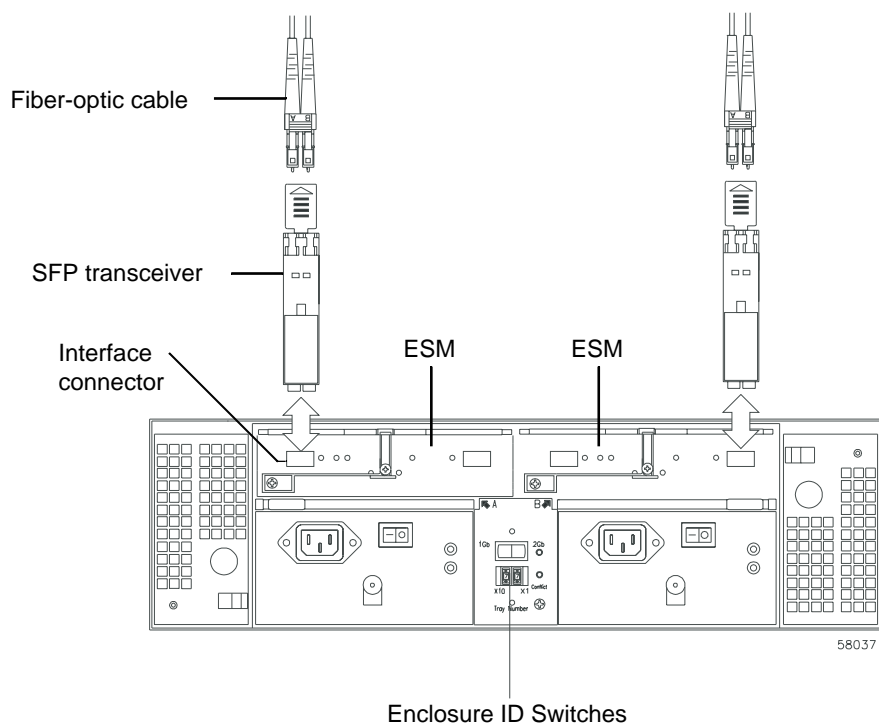

Figure 7-7 Removing SFPs from the Environmental Status Module
5. Disconnect the Fibre Channel cables from the SFP transceivers in the failed canister; then remove the SFP transceivers (see Figure 7-7). Label each cable to ensure that all cables are properly reconnected to the new canister.
6. Set the enclosure ID numbers on the new canister exactly as they are set on the failed environmental status module (see Figure 7-7).
Note: Figure 7-7 shows a 14-drive enclosure. The enclosure ID switches on a 10-drive enclosure are located on the rear of each ESM.
13. Check the power and fault indicators on the new canister (see Figure 7-7).